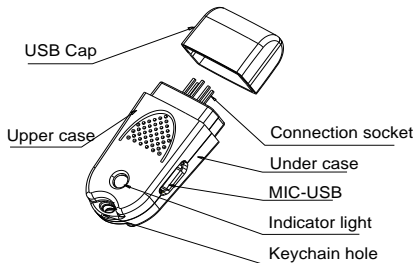

Figure B-1 Uploading and downloading module structure diagram
Uploading and downloading module structure diagram shown in figure B-1 :
Step 1: Installing the upload and download module in the inverter control board UP / DOWNLOAD location (As shown in figure B-1) .